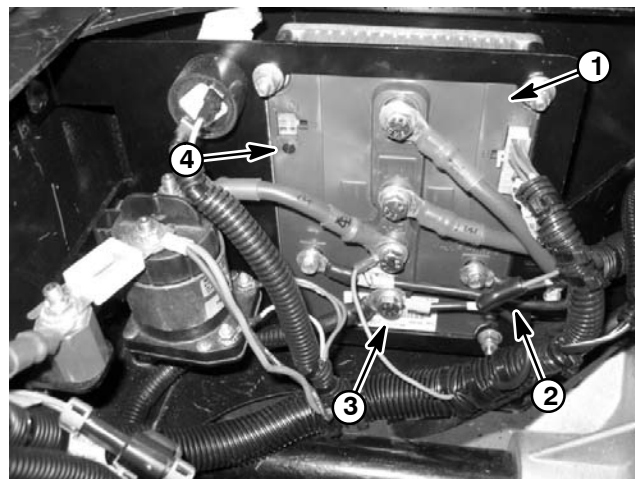

Figure 16
4. Using a jumper wire, connect gray controller lead to ground post (B-) on controller (Fig. 16).
5. Turn On/Off switch ON. The alarm should sound and the controller LED should flash six (6) times.